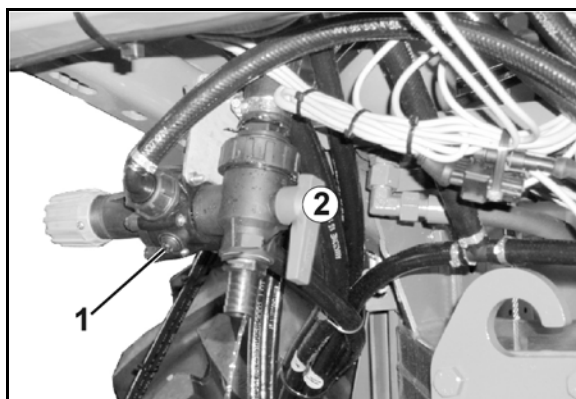

Fig. 157
- o Remove the drain plug (Fig. 157/1) from the pressure relief valve.
- o Open the DUS switchover tap (Fig. 157/2).